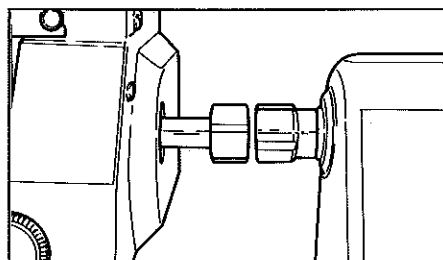
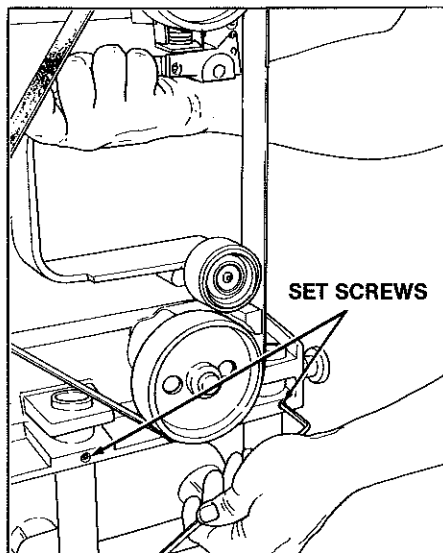

Figure 2. From the side, align the hubs vertically.
Figure 3. Tighten the setscrews.
4. **Align the hubs vertically.** Check the vertical alignment of the hubs. (See Figure 2.) If they're not aligned, raise the strip sander on the tubes until the hubs align. Then tighten the setscrews (40). (See Figure 3.) Once the mounting tubes are locked in the strip sander frame, you can install the strip sander on the Mark V using only the accessory mount lock.